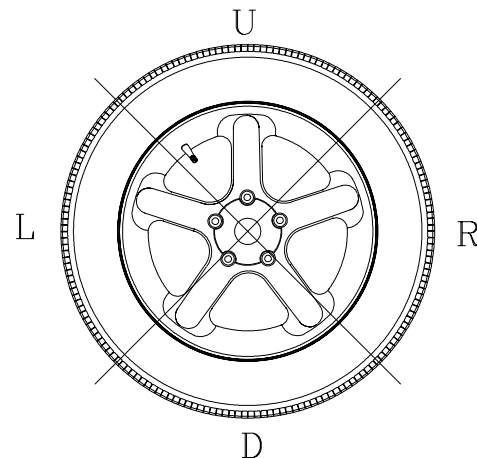

Figure 24
**C.** The wheel weight could have been placed at a wrong position. To check this, position the wheel at the correction position for the outer plane. If the wheel weight previously attached is in sector 'L' or 'R' ( Fig.24), move the wheel weight up about 1" (2.54cm).